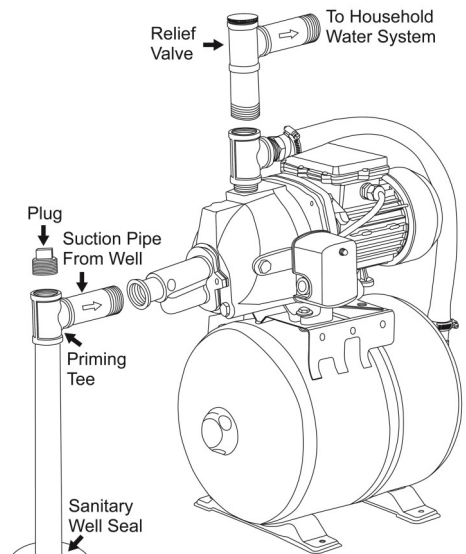

Figure 6
4. Install a priming tee with a plug on the suction pipe from the water source as shown in Figure 6. An inline check valve should also be installed on the suction line going to the pump. Install a union or other fitting that will allow the pump to be easily disassembled from the piping for easy servicing. Make sure Teflon tape or pipe joint compound is used on all joints.